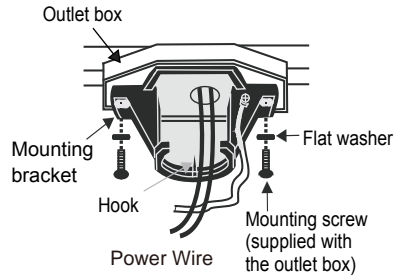

Fig. 3
**Step 1.** Pass the power wires through the center hole in the mounting bracket as shown in Fig. 3.